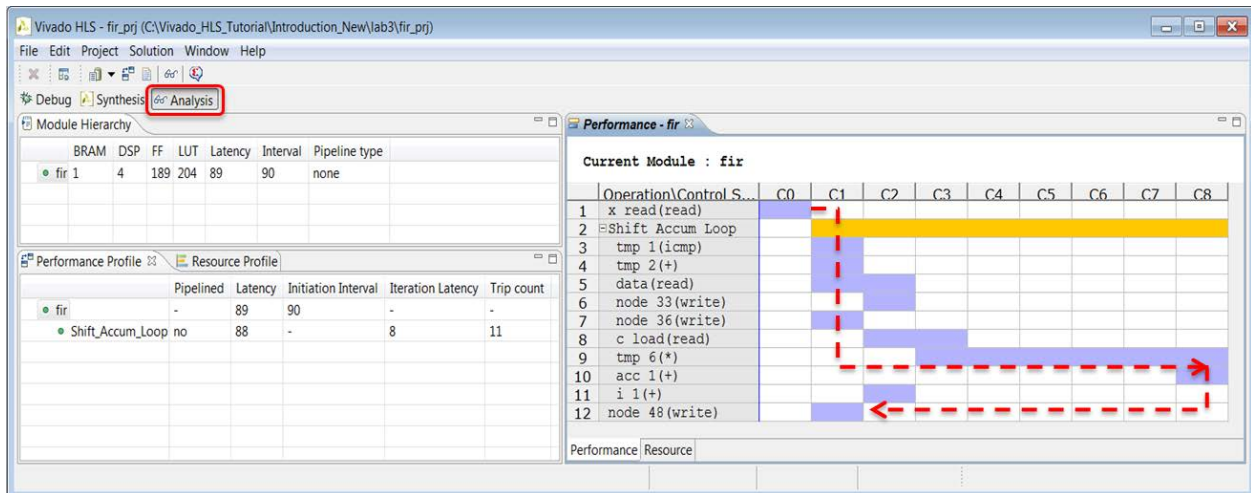

Figure 26: Solution2 Analysis Perspective: Performance
While still in `solution2`, and as shown in **Figure 26**:
- The red-dotted line in **Figure 26** is used shortly in an explanation; it is not part of the view.
The explanation presented here follows the path of the dotted red line in **Figure 26**. Some of the objects here correlate directly with the C source code. Right-click the object to cross-reference with the C code.